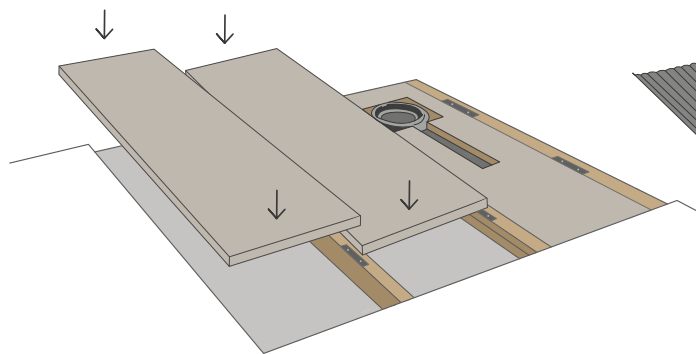

Fig. 11
1. Once you are satisfied with the drainage, replace the plywood section around the drain and fix all floor infills in position (Fig.11).